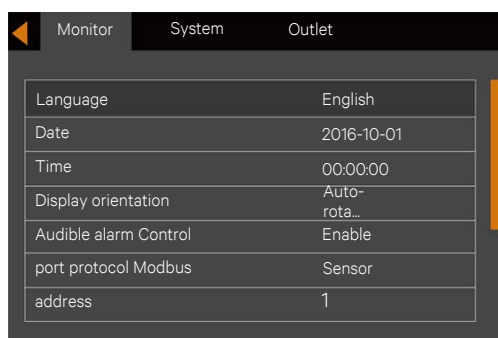

Figure 5-12 Language selection
3. Press the  key to highlight the language, see Figure 5-12.